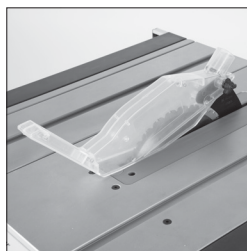

Fig. 17
- The guards locating pin should be positioned through the hole machined in the Riving Knife and the washer and locking nut fitted to one side. The blade guard must move up and down easily and smoothly, so do not over-tighten this nut (**Fig. 17**).